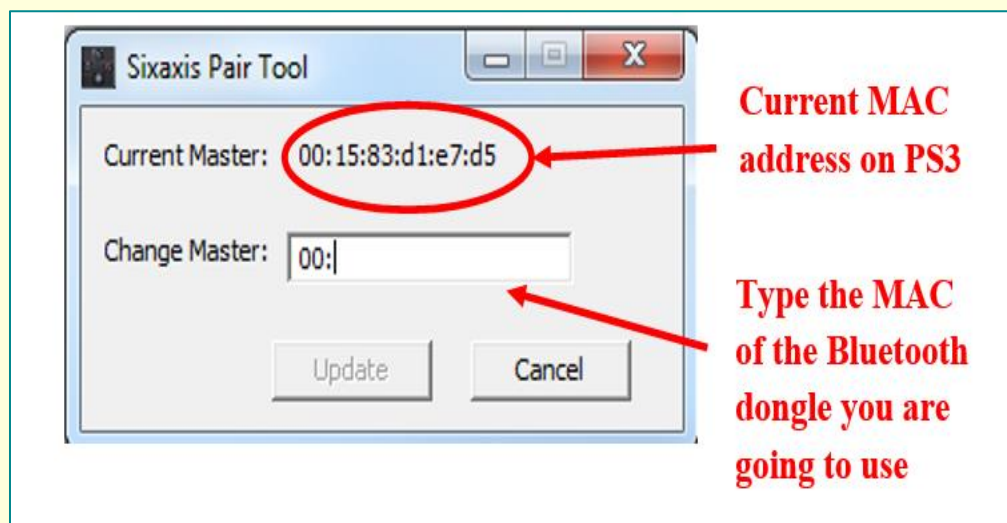

Figure 4-13. Changing the MAC address on the Sony PS3 controller.
3. Connect the Sony PS3 controller to your computer using a USB cable. The “window” of the “**SixaxisPairTool**” program should look like Figure 4-13.